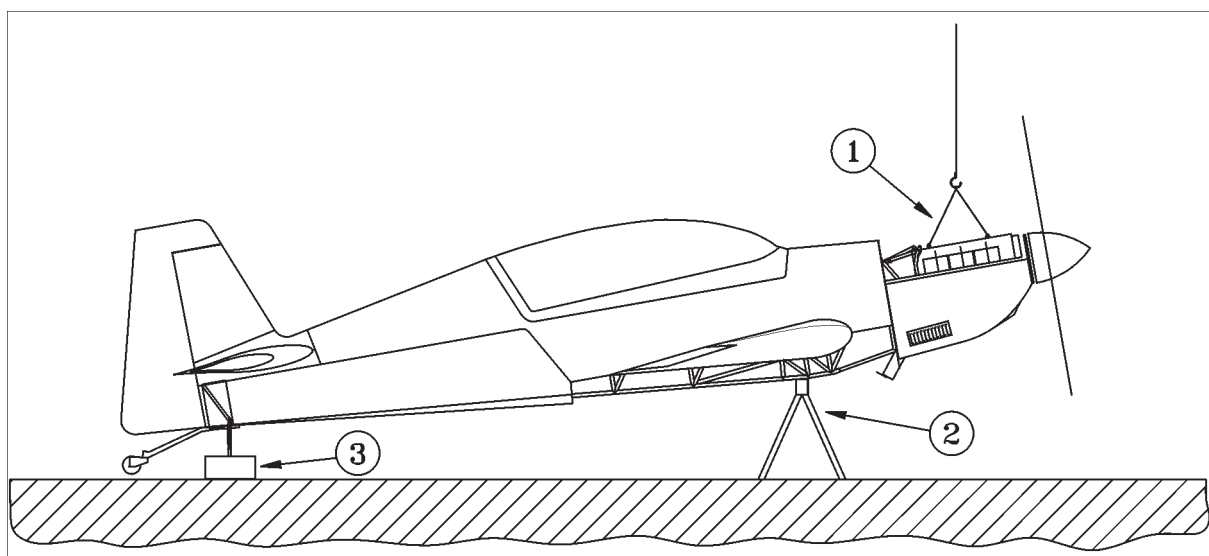

Figure 2
- 2 Install a balance weight (3, figure 2) at the tail as per chapter 07-10-01.
- 3 Hoist the aircraft by means of both engine hoisting points (1).
- 4 Shore the aircraft by means of two supports (2), which are to put under the left and right bottom longeron each in the area behind the landing gear as shown in figure 2. This is possible also, when the landing gear is installed.